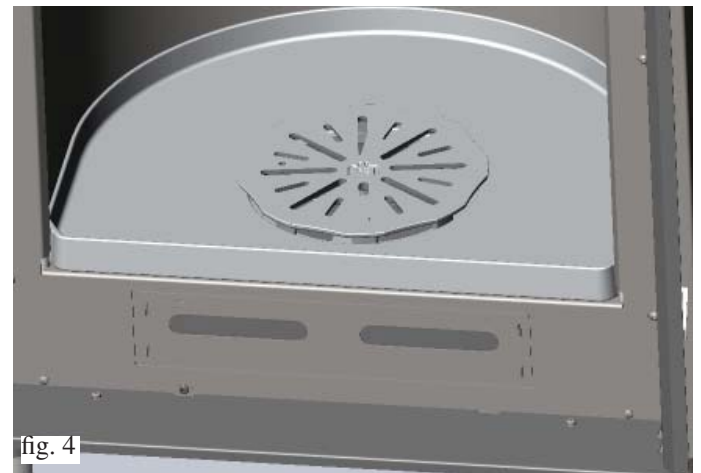

fig. 4
- Open the door and block it in the open position in order to easily work inside the hearth (fig. 4).